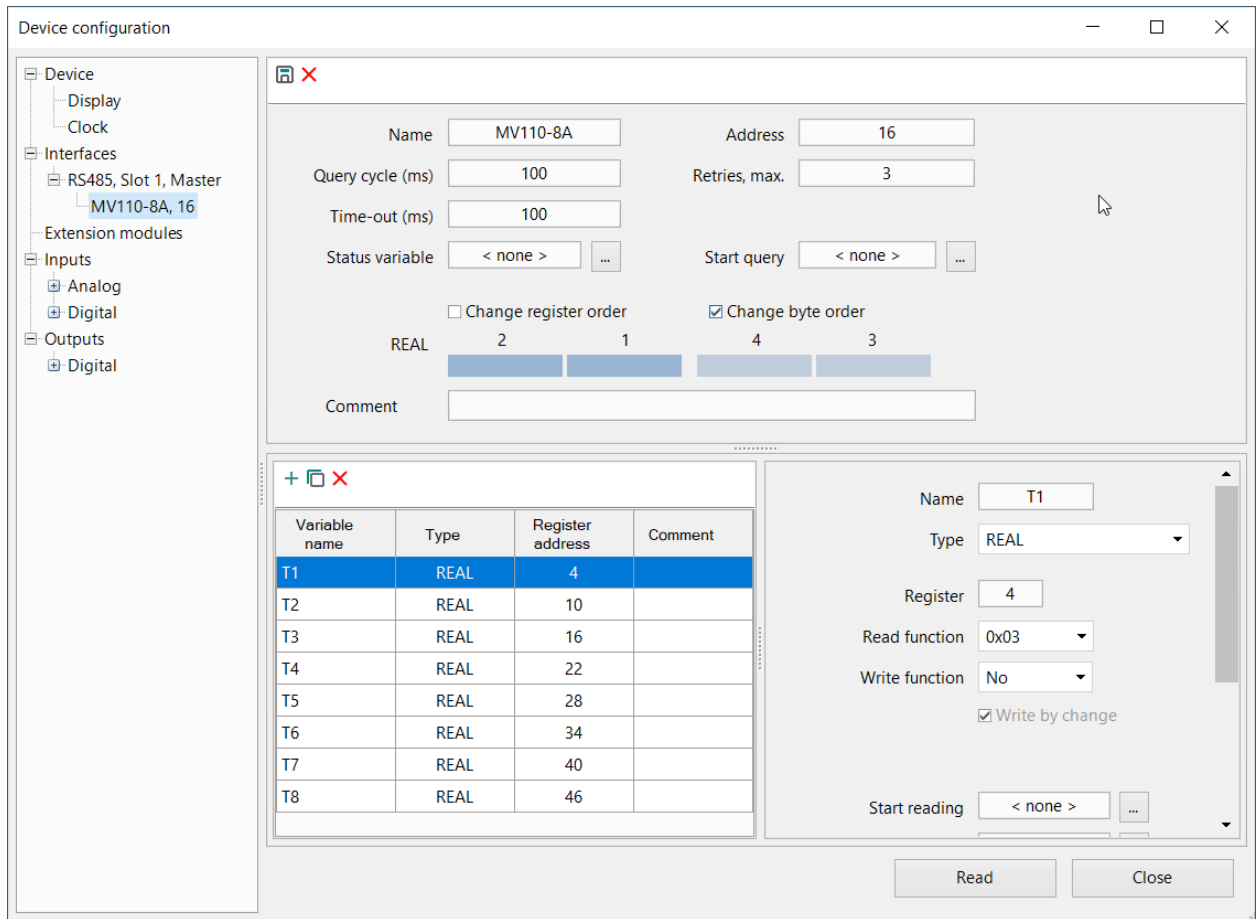

Fig. 3. Create network variables
7. Click on the new slave to open its configuration mask and create the desired number of variables (Fig. 3). The address of the device memory register whose value is to be used by the variable can be found in the table “Modbus registers” in the MV110-8A device manual.